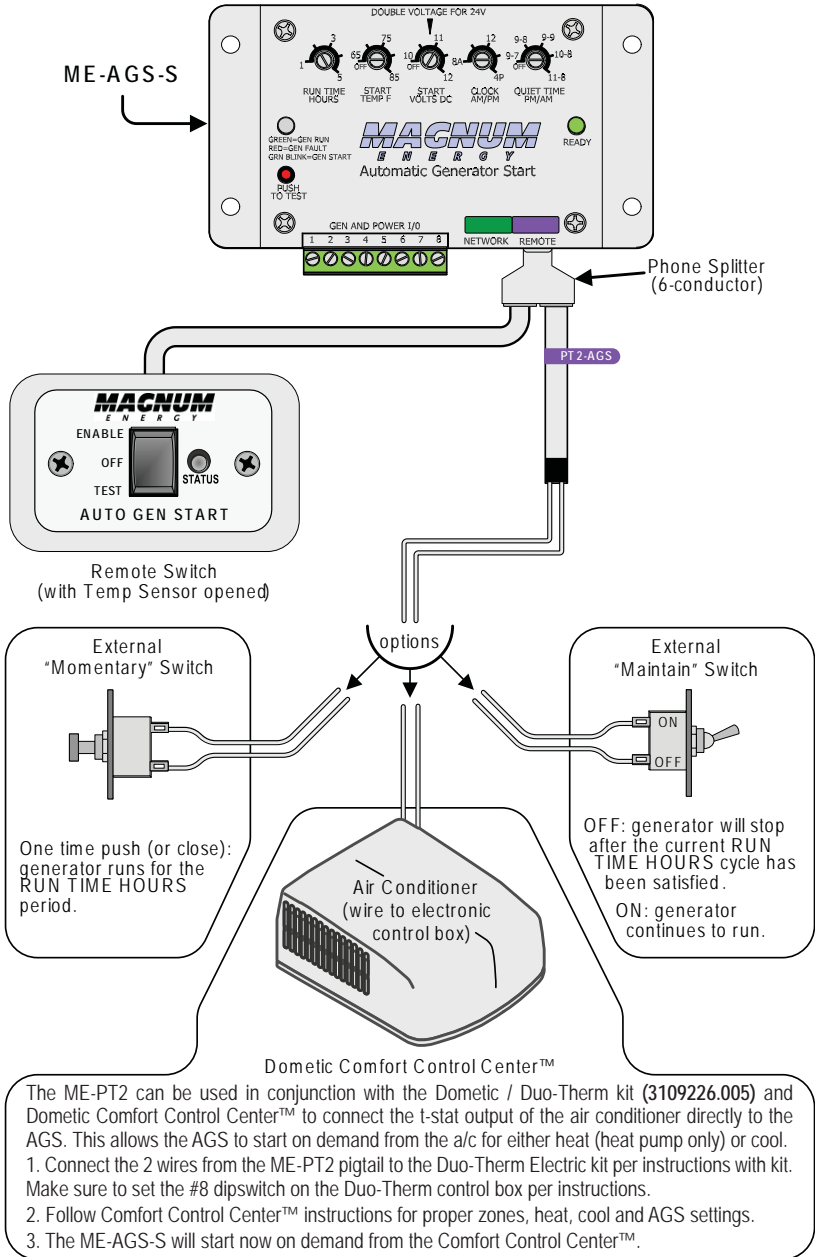

Figure 5, ME-PT2 to ME-AGS-S Installation
- Refer to figure 5 for the following steps to install the ME-PT2: